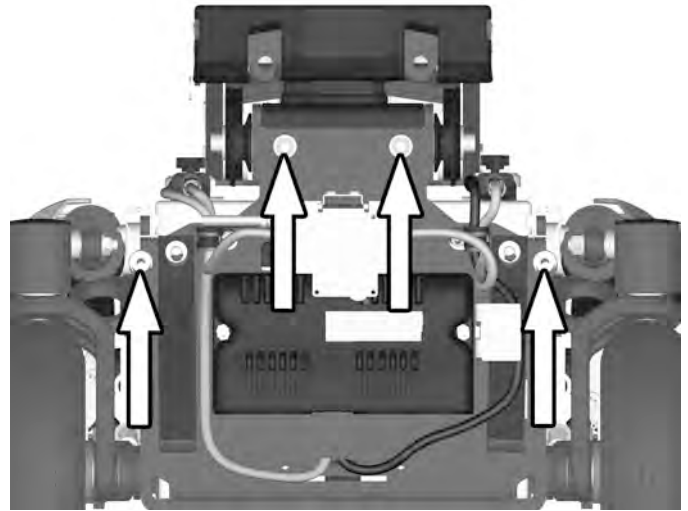

Figure 36. The battery box is secured with four screws.
5. Refit the four screws securing the battery box. Use a torque wrench to tighten the screws. **Tightening torque: 24 Nm / 17.7 Ft/lbs.** See fig. 36.